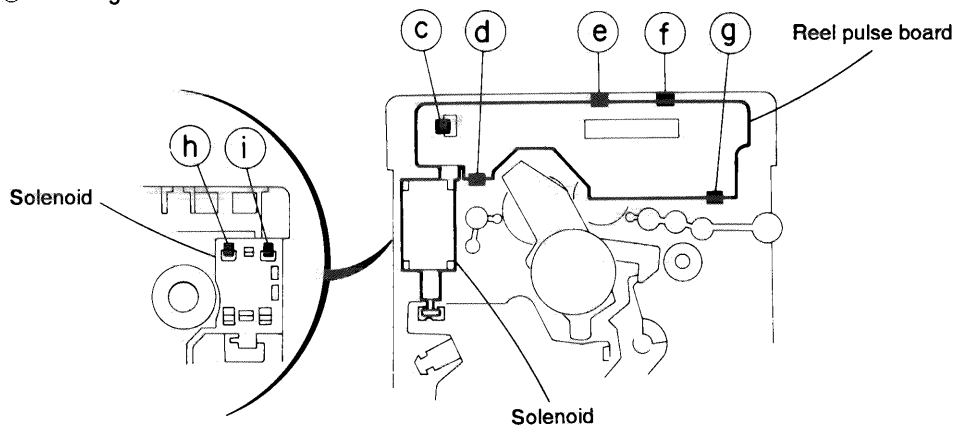

Fig.5-34
■ Removing the Reel Pulse P.C. Board and Solenoid (See Figs. 5-34)
1. Remove the five pawls (③, ④, ⑤, ⑥ and ⑦) retaining the reel pulse P.C. board.
2. From the surface of the reel pulse P.C. board parts, remove the two pawls ⑧ and ⑨ retaining the solenoid.